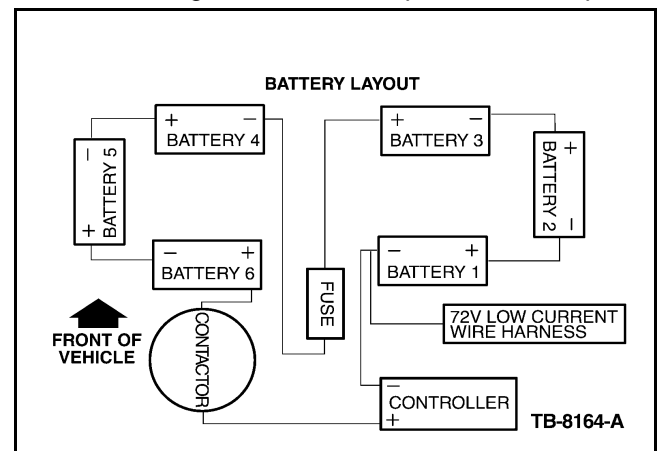

Figure 1 - Article 05-4-12
1. Remove the front seat stanchion and check battery pack voltage by placing a DVOM positive (+) probe onto the positive terminal of battery #6, and the DVOM negative (-) probe onto the negative terminal of battery #1 (Figure 1).